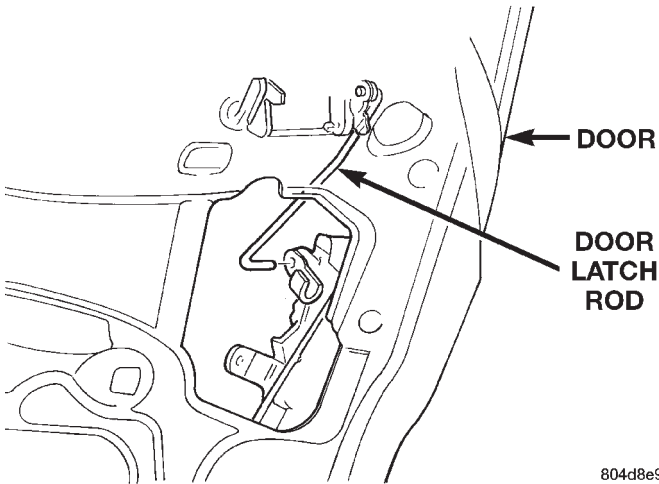
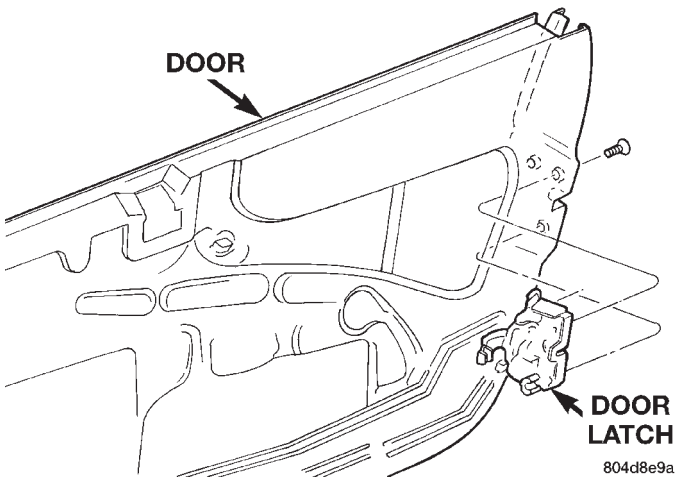

Fig. 31 Lock and Latch Rods At Door Latch
Fig. 32 Door Latch
- (5) Disconnect lock and latch rods from outside door handle and key cylinder at door latch (Fig. 31).
- (6) Disengage wire connector from power door lock motor.
- (7) Remove screws holding door latch to door end frame (Fig. 32).
- (8) Separate door latch from vehicle.